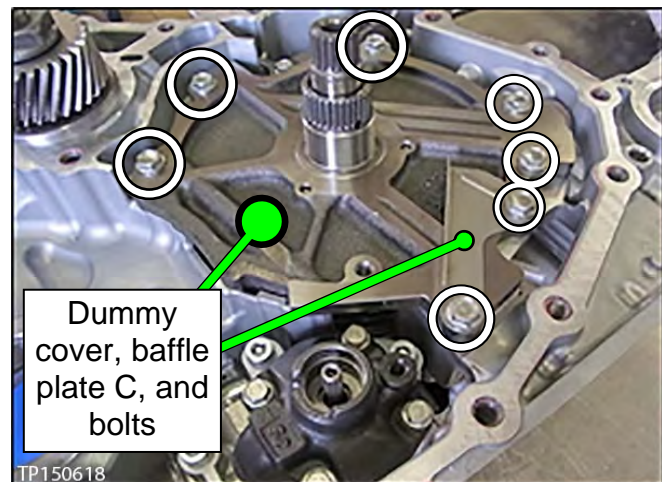

Figure 5I
5. Install the dummy cover first, then baffle plate C, and then the related bolts finger tight (Figure 5I).